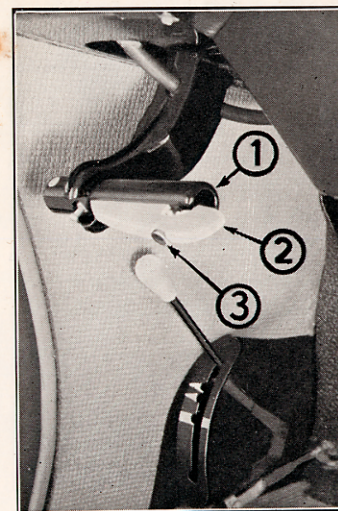

Figure 6
The mechanical brake consists of a swivelling handle **1** (fig. 6) placed within reach of the driver's left hand.
The brake is unlocked by pulling the handle with the left hand to release the ratchet device; press with the thumb the right-hand end of handle **2** (fig. 6) so as to hold the ratchet, then push the handle completely forward.
blocked by a safety device. To operate the handle give the knurled screw **3** (fig. 6) a quarter turn.
When parking on a slope, it is essential to pull out handle **1** (fig. 6) very firmly.
- completely pushed down (fig. 6).
- Depress the mechanical brake pedal **1** (fig. 6) fully and lock it.